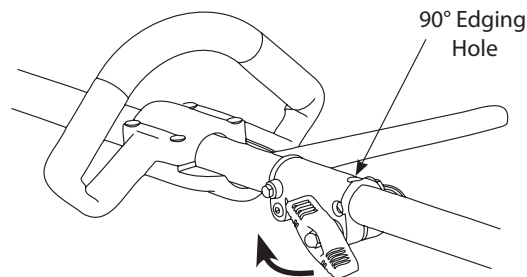

Fig. 11
3. Turn the knob clockwise to tighten (Fig. 11). The unit is ready to use.
- Always install the attachment so that the engine is upright (propane tank on bottom) when unit is operated. A secondary receiving hole is provided for use of a trimmer being used for edging only. No other accessory should be used in this secondary hole (90° edging hole) (Fig.11).
For edging, lock the release button of the cutting attachment into the 90° edging hole (Fig.11), so that the engine remains in the upright position while operating.